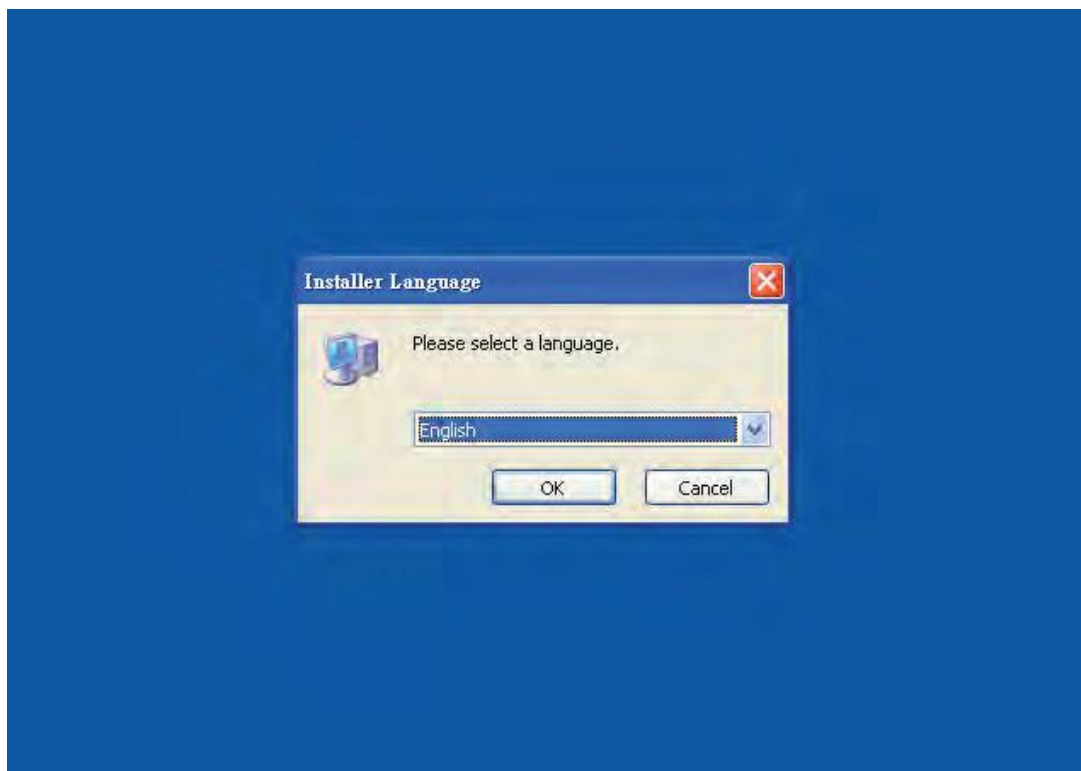

Fig. 3-1-2 Select Language
Step 2: Execute **setup.exe** from Windows taskbar by clicking “Start” > “Run”. After pressing **OK**, system will setup automatically and you will get the following dialog box to select the desired display language (Fig. 3-1-2).